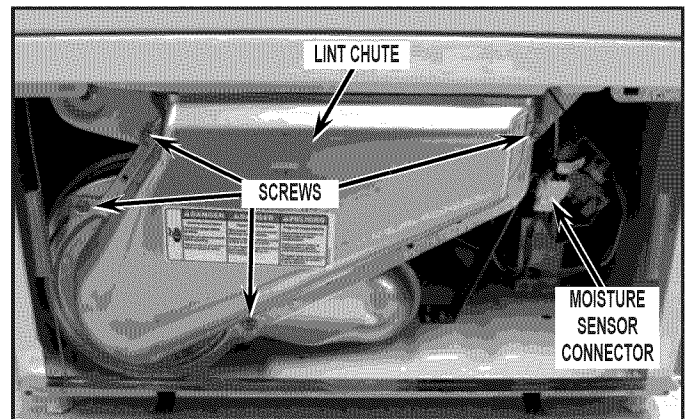

FIGURE 3
3. Open door and remove lint screen. Remove two (2) to four (4) screws attaching the lint chute to the blower housing. See *Figure 3*. Slide lint chute down and away from the dryer to remove.